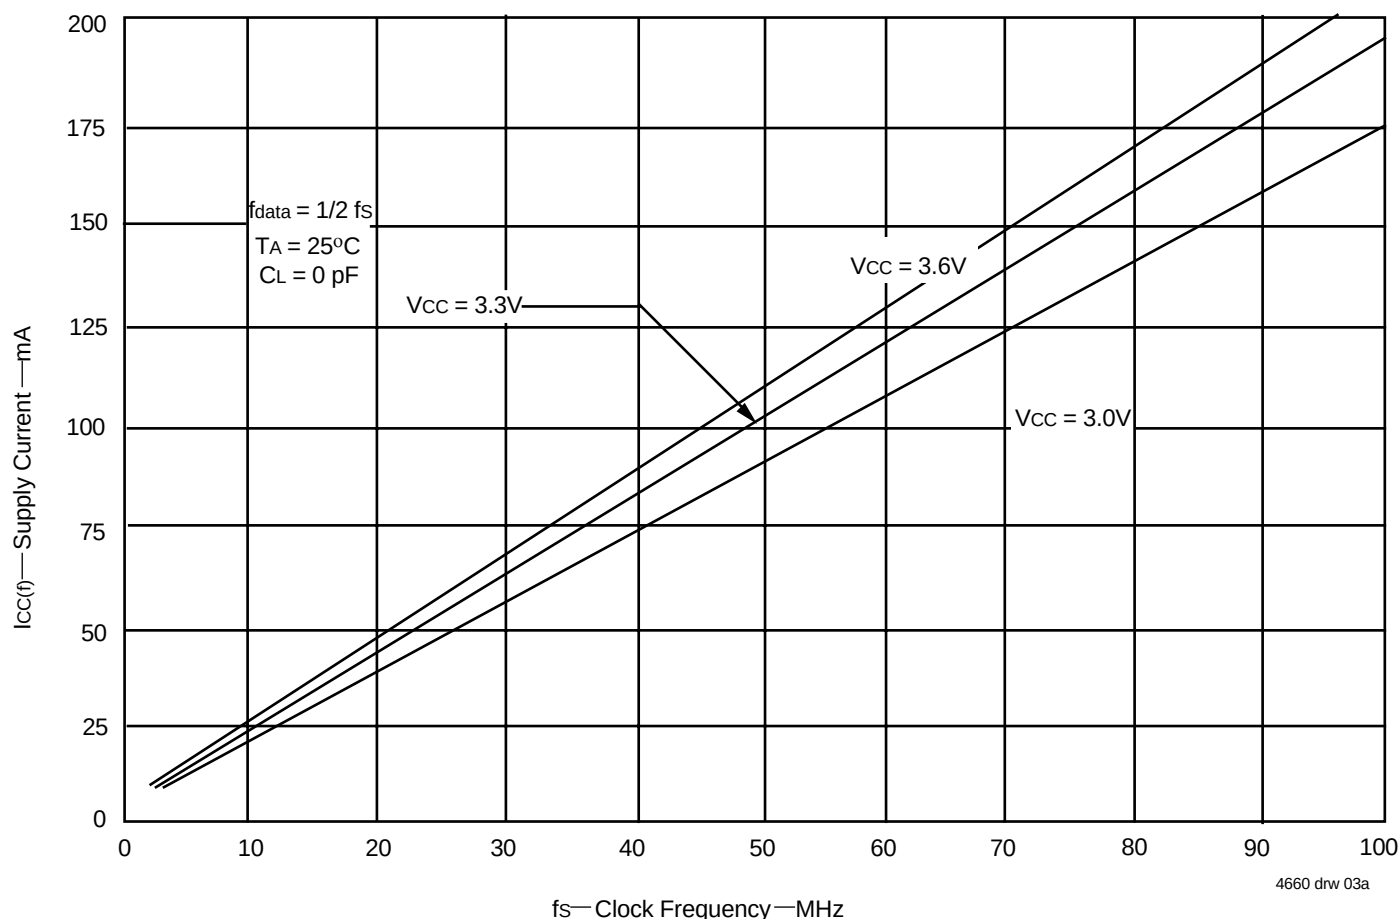

Figure 1. Typical Characteristics: Supply Current (I_{CC}) vs. Clock Frequency (f_s)
- For additional I_{CC} information, see Figure 1, *Typical Characteristics: Supply Current (I_{CC}) vs. Clock Frequency (f_s)*.
The $I_{CC(f)}$ current for the graph in Figure 1 was taken while simultaneously reading and writing a FIFO on the IDT72V3622/72V3632/72V3642 with CLKA and CLKB set to f_s . All data inputs and data outputs change state during each clock cycle to consume the highest supply current. Data outputs were disconnected to normalize the graph to a zero capacitance load. Once the capacitance load per data-output channel and the number of these device's inputs driven by TTL HIGH levels are known, the power dissipation can be calculated with the equation below.
With $I_{CC(f)}$ taken from Figure 1, the maximum power dissipation (P_T) of these FIFOs may be calculated by: